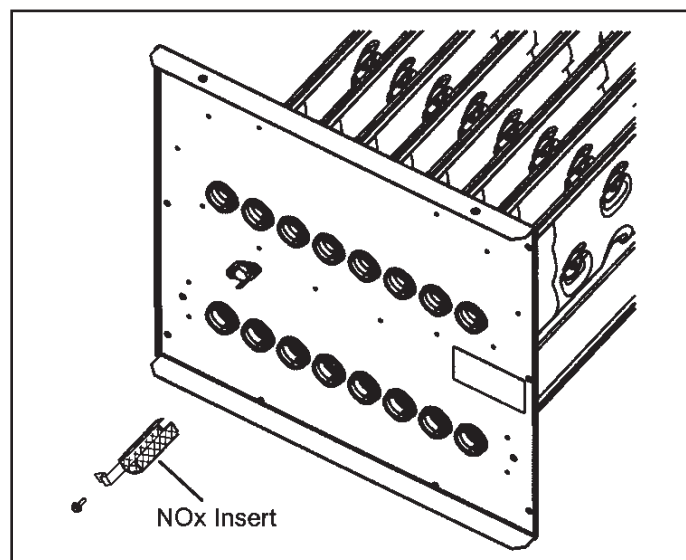

Figure 32. NOx Inserts
8. NOX units only - Remove screw securing NOX insert. Remove NOX insert. See Figure 32.